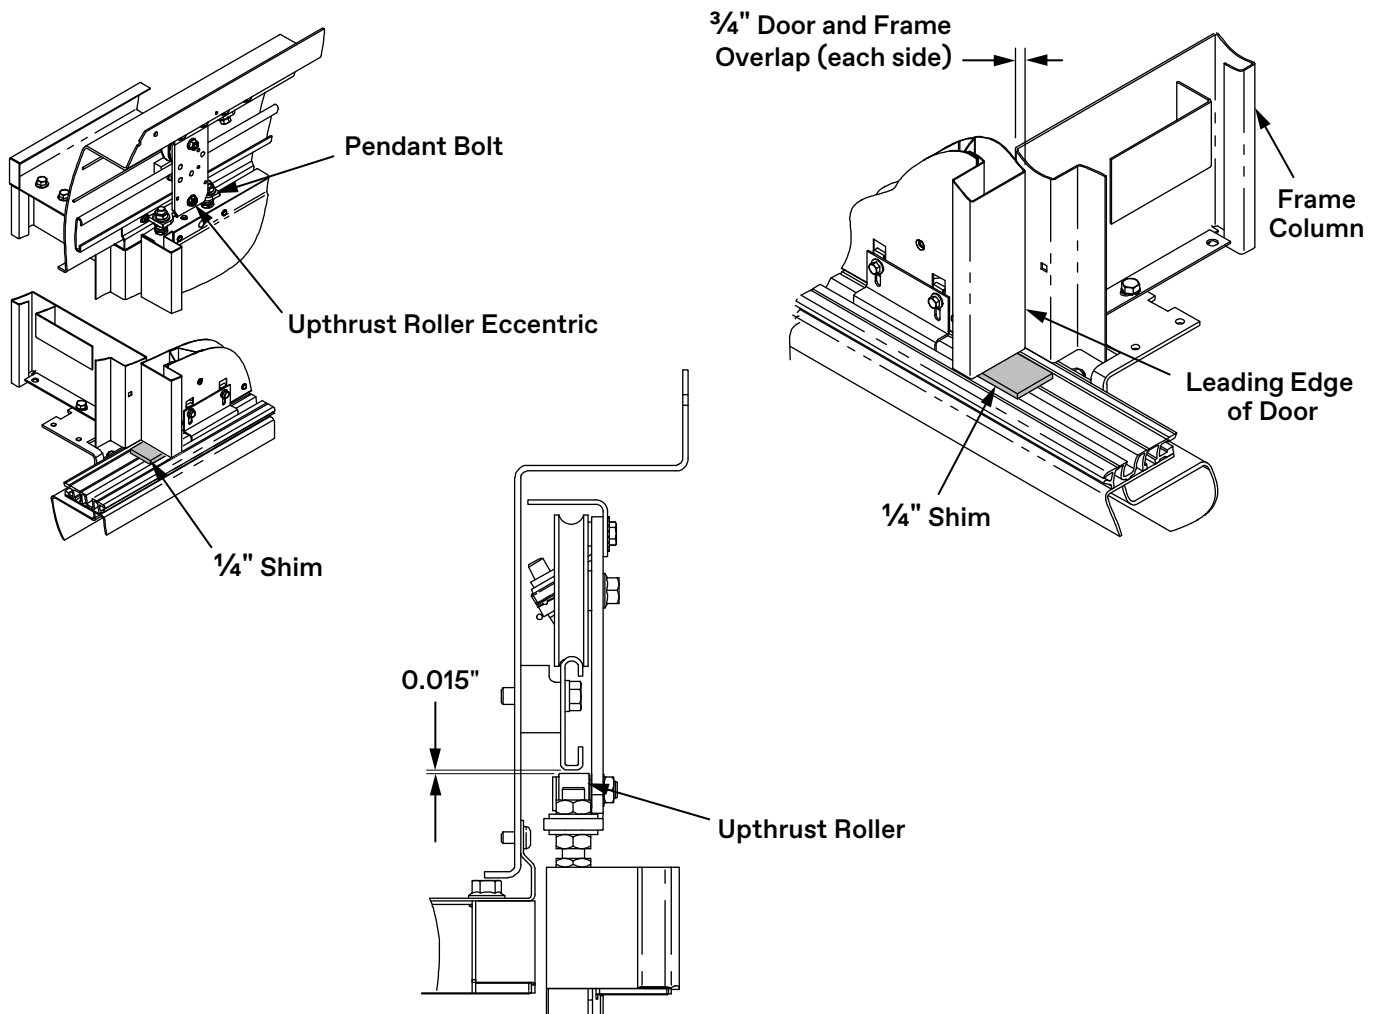

Figure 46 - Adjust Running Clearance
1. Place a $\frac{1}{4}$ " shim (running clearance) underneath each edge of door. See Figure 46.